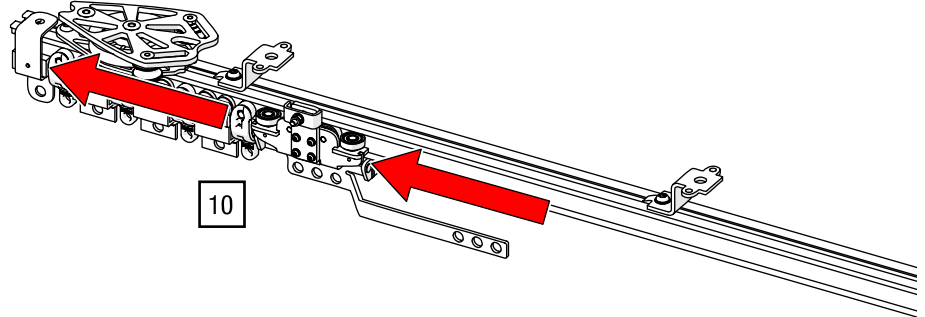

Fig. 79: Side cord operation – Push the trolleys together
10. In the case of a two-part curtain, push the runners and the master runner together as far as possible in the stowage area on each side (see Fig. 79).